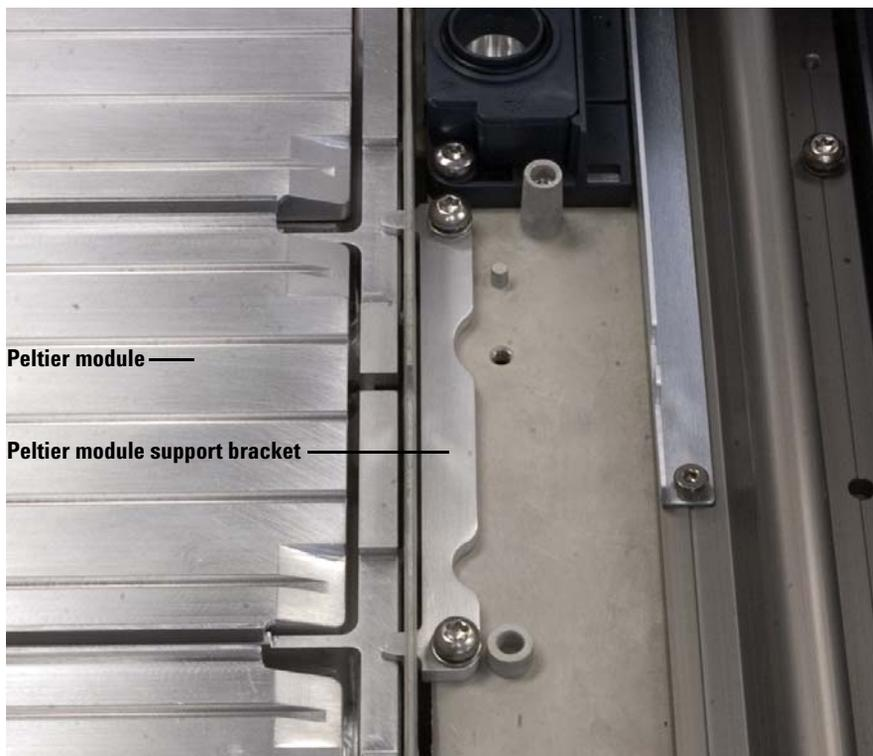

Figure 50 Securing the Peltier module and Peltier module support bracket
- 30** Using the supplied T-20 Torx screws, install the two screws to secure the Peltier module support bracket to secure it to the sample tray (Figure 50).